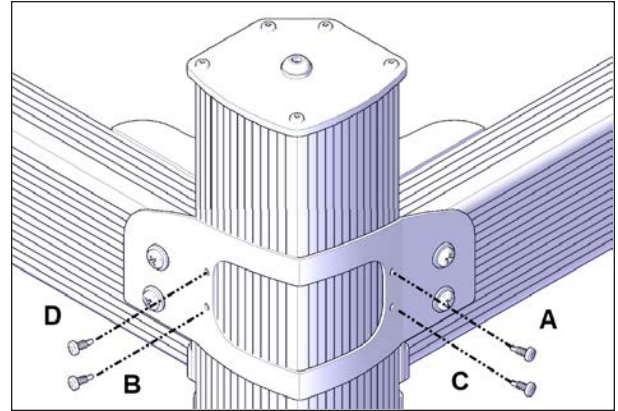

FIGURE 48: INSTALLATION PATTERN FOR CORNER BRACKET SCREWS ATTACHED TO THE SLEEVE
28. Install #8 x 1/2" self-tapping screws (4) to fasten the corner bracket to the sleeve and follow the A to D pattern shown in Figure 48.